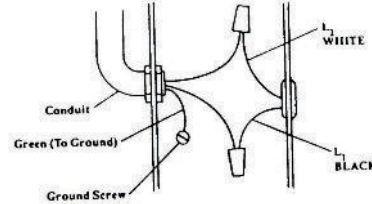
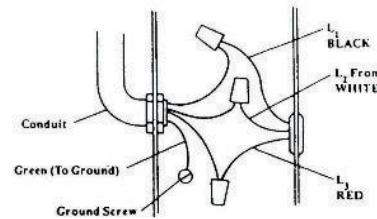

FIGURE 12 – SINGLE PHASE
FIGURE 13 – THREE PHASE
- c. Use the wire nuts to make connections in the wiring compartment. See Fig. 12 for single phase models. See Fig. 13 for three phase models.